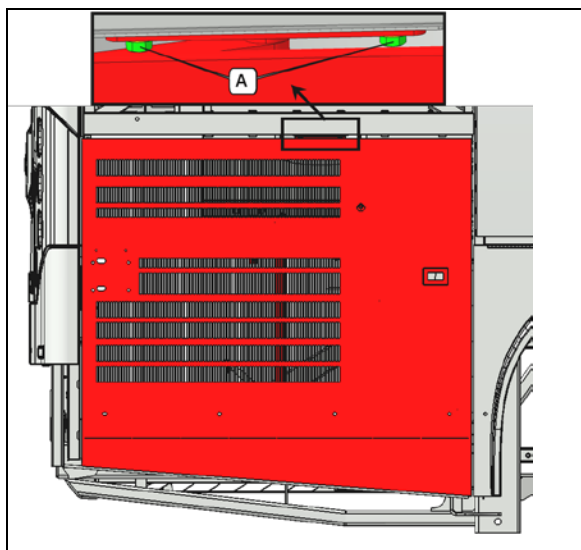

FIGURE 106
2. Make sure bolts A are tight (FIGURE 106).